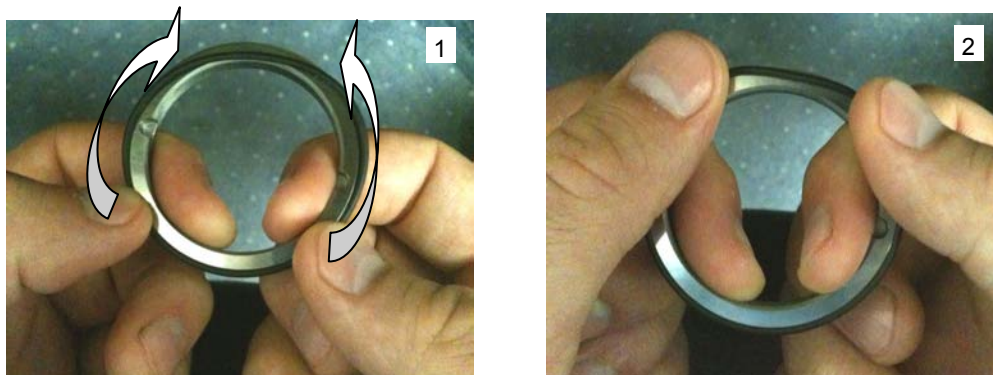

Figure 6: Installing the Rotating O-ring
3) Next install the rotating o-ring onto the rotating seal by stretching it (not rolling) onto the rotating seal (Figure 6).